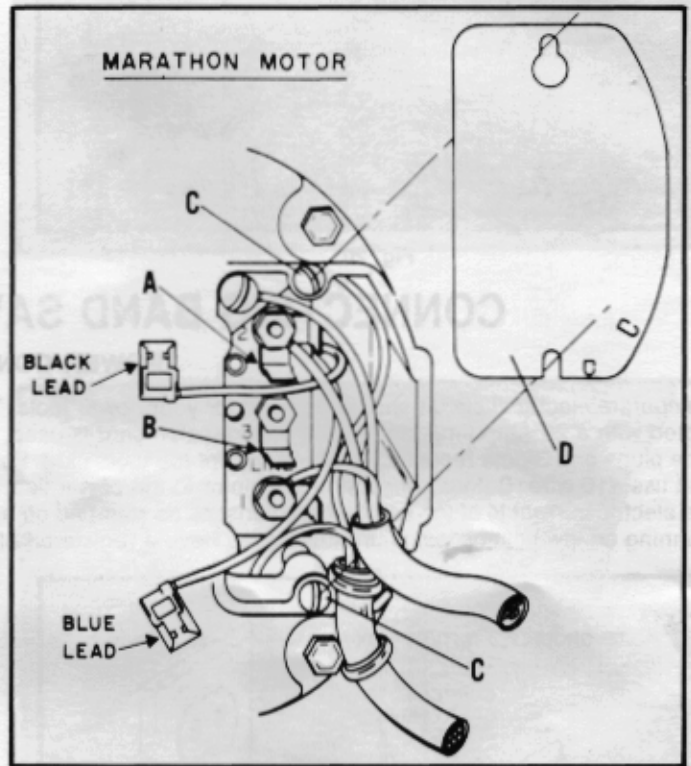

Fig. 25
4. If your motor is manufactured by Marathon Electric, refer to Fig. 25. Loosen two screws (C) and remove the motor junction box cover (D). To reverse the rotation of the motor, interchange the black and blue leads on terminals (A) and (B) Fig. 25. These leads have spade type terminal clips that are slipped off the terminals (A) and (B) and interchanged.